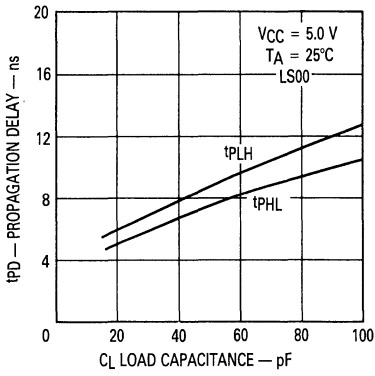

FIGURE 2-11a*
*Data for Figures 2-11a through 2-11c was taken with only one output switching at a time. Figure 2-11d data was taken with all 8 inputs of the F240 tied together.